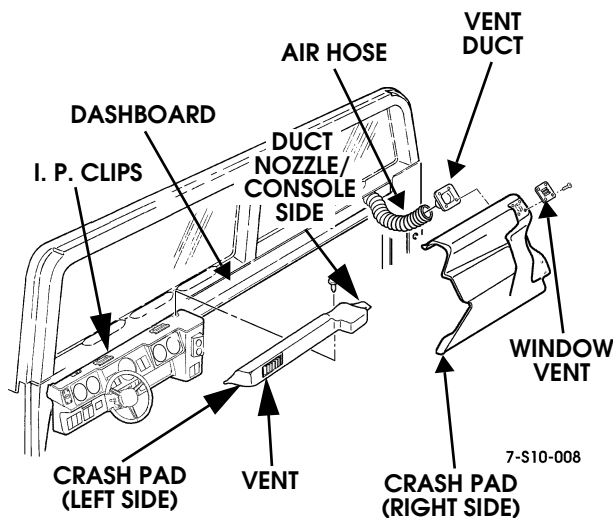

Figure 2-84: Crashpad Replacement
1. Remove screw/washers, and crashpad from dashboard (Figure 2-84).
1. Secure vent duct and window vent to crashpad with screws (Figure 2-84).